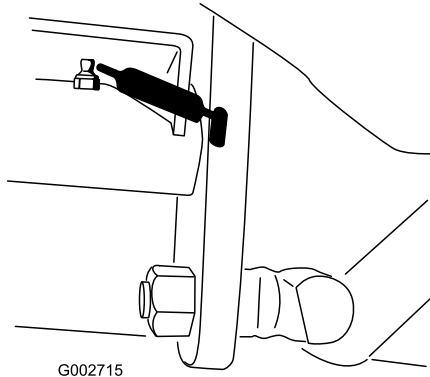

Figure 20
- 1 Traction-pedal pivot bearing (Figure 20).